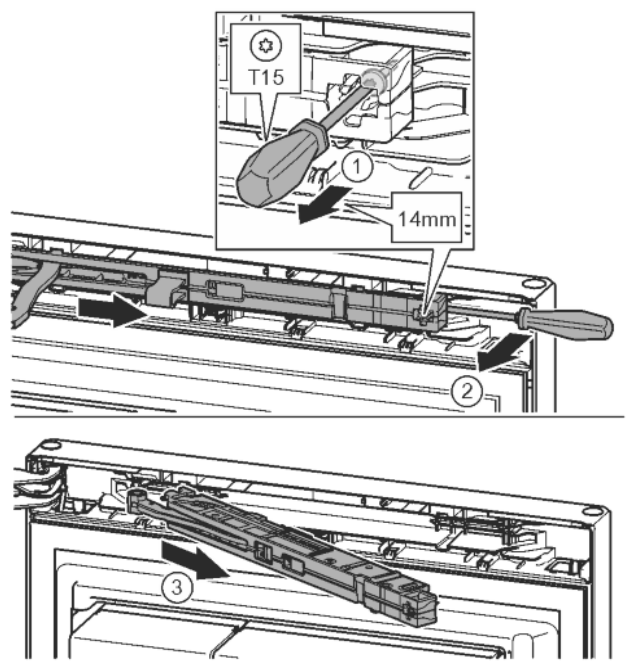

Fig. 11
- Undo the soft stop mechanism screw with a T15 screwdriver approx. 14 mm. Fig. 11 (1)
- Insert a screwdriver behind the soft stop mechanism on the handle side and rotate forwards. Fig. 11 (2)
- Remove the soft stop mechanism. Fig. 11 (3)